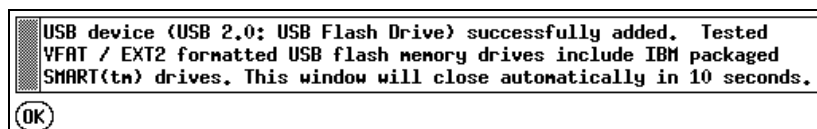

Figure 14-74 OSA Advanced Facilities: removable media inserted
1. Before you export a source file, prepare the USB flash drive that is supported by the HMC, and insert it into the USB port of the HMC. When the flash drive is recognized by the HMC, the panel shown in Figure 14-74 is displayed.
1. Before you import the source file, insert the USB flash drive that contains OSA-ICC source file. When the USB flash drive is recognized by the HMC, the window shown in Figure 14-74 on page 690 opens.